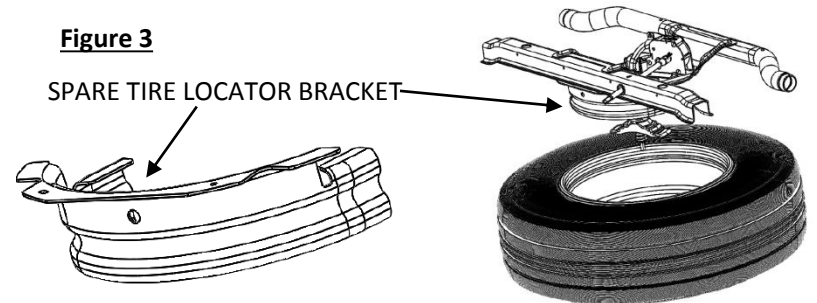

Figure 3
- Lower spare tire for ease of installation. (18 INCH SPARE TIRE WILL REQUIRE REMOVAL OF THE TIRE LOCATOR BRACKET (SEE FIGURE 3) AND 20 INCH SPARE TIRE MUST BE RELOCATED FROM UNDER THE BED)